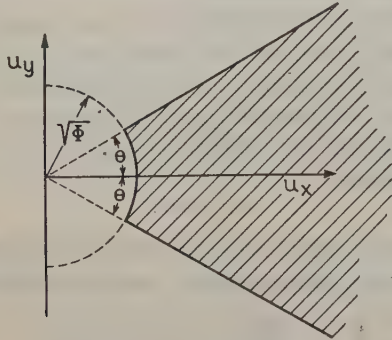

Fig. 4—Line-focus beam.
A line-focus beam is one in which fields act in the x direction and one other direction, say, the y direction, but not in the z direction. Conservation of energy tells us concerning the two components of velocity which can be changed by the fields that $u_x^2 + u_y^2 > \Phi$. One possible state of affairs is that in which electron density is other than zero in a region outside the cylinder $u_r^2 = u_x^2 + u_y^2 = \Phi$ and within a dihedral angle whose sides make an angle θ with the $u_x u_z$ plane. This angle θ will be determined by the angular extent of the aperturing system which is used to eliminate widely diverging electrons from the beam. This line-focus case is illustrated in Fig. 4. Line-focus beams do not necessarily fulfill this condition, but it is a limiting condition for which the current density within a given angular range is as high as possible; its use in conjunction with (13) and (15) will give limiting transconductance for line-focus beams.